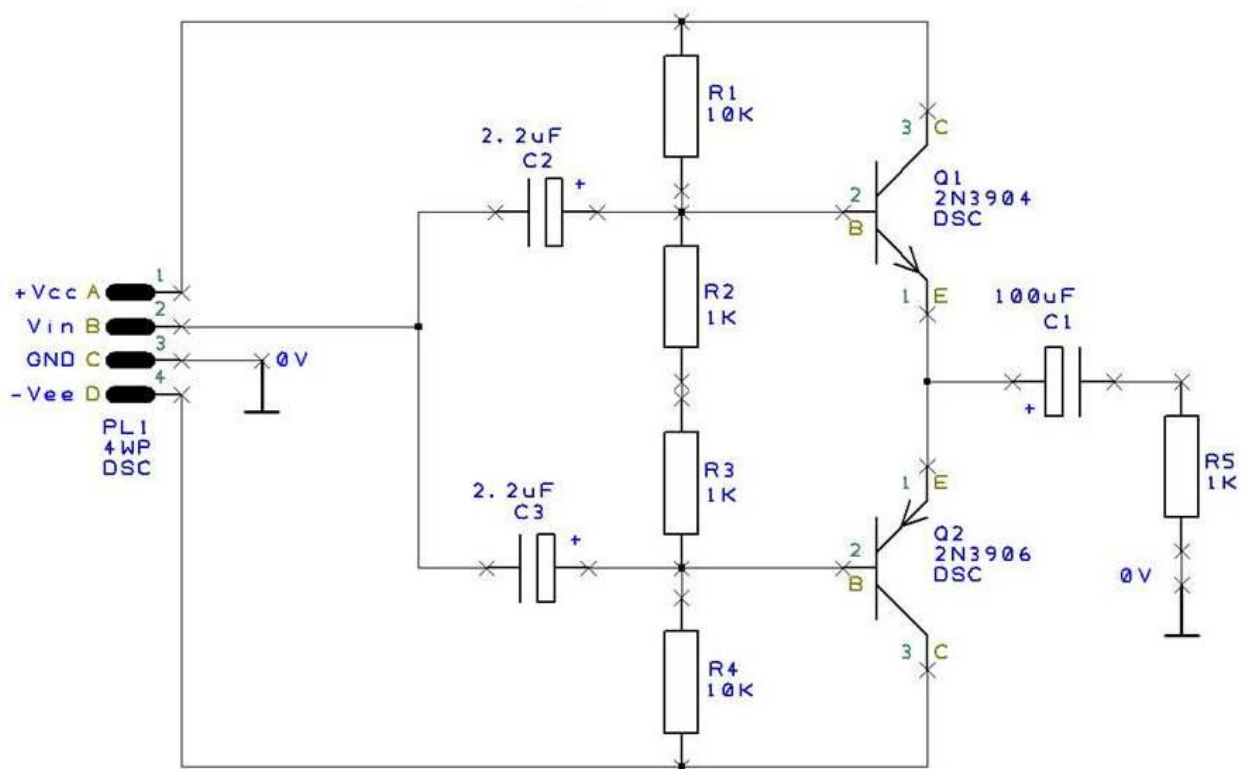

Figure 6-18: Generating Schematics Design
3. We will draw the Power Amp Circuit shown in Figure 6-18, and use it to explore some of the DesignSpark PCB Features. The components we require can be found in the following component libraries: